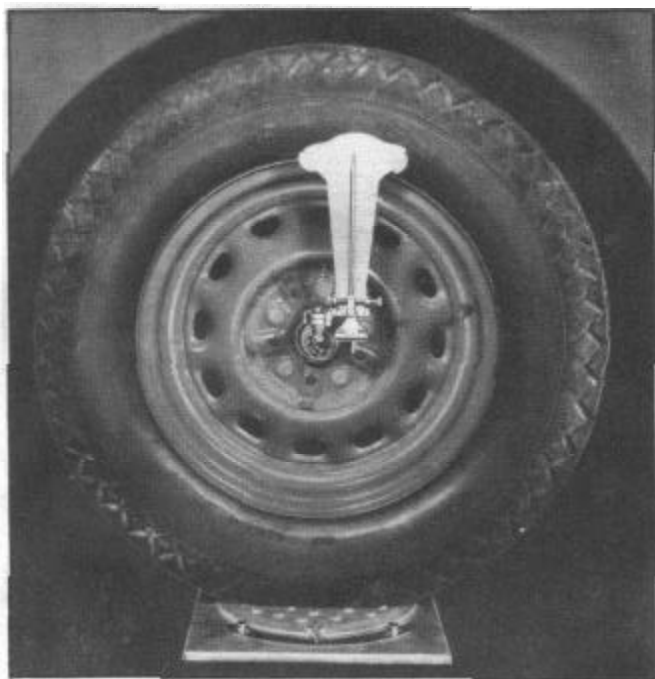

Figure 1--Jiffy Gauge and Turn Plate in Starting Position
3. Remove left hand spindle nut and washer and install jiffy caster and camber gauge as shown in Figure 1 so that level bubble is between gauge lines when pointer is set at zero.
1. Turn the wheels back to the straight ahead position and reset the jiffy gauge as in paragraph 3, see Figure 1.